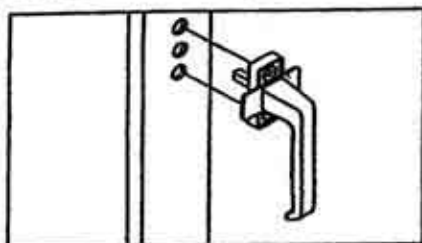

Figure 2-4. Euro-Handle in the Lock position
- 2.3 Lock position: install the SA- FE-Handle on the sash in the vertical Lock position, with the handle pointing down. Insert the shaft into the center hole. See Fig. 2-4.